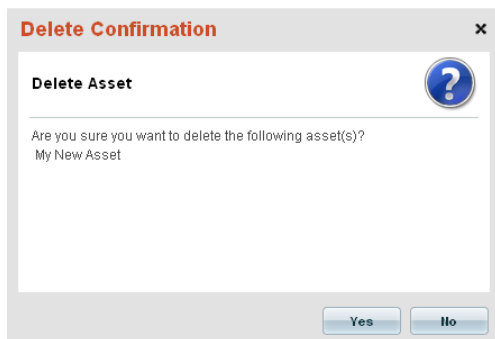

FIG. 241 Delete Confirmation dialog - Assets
4. The system will prompt you to verify this action before the Asset is deleted, via the *Delete Confirmation* dialog (FIG. 241):